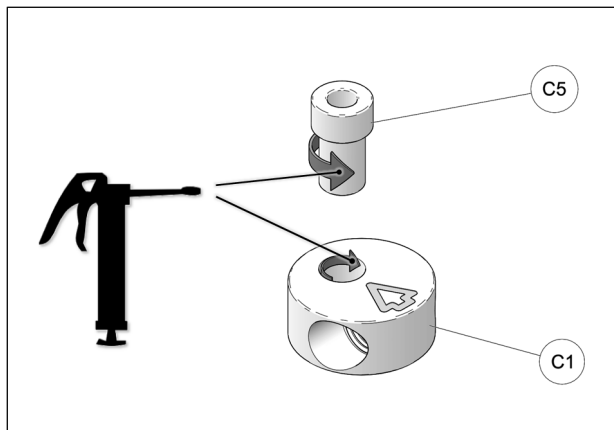

Fig. 19
11. At assembly, apply grease evenly all around step spacer bushing (**C5**) and in hole of aluminum disk (**C1**). See Fig. 19